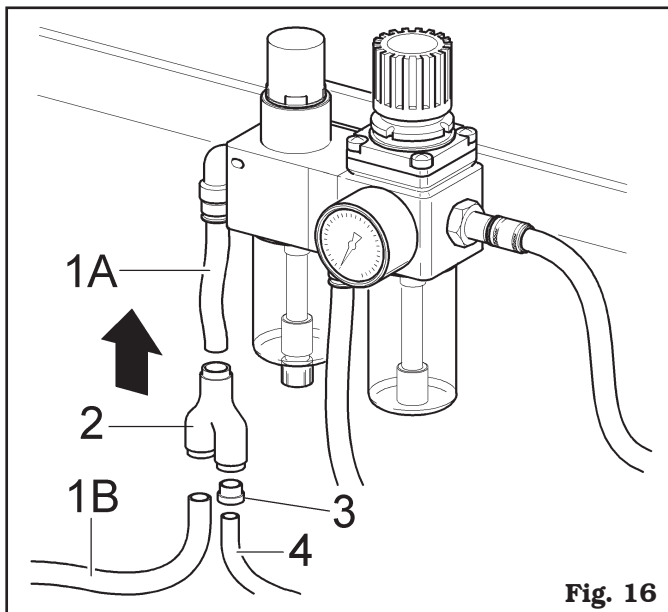

Fig. 16
d - Between the two pipe's sections (**Fig. 16 ref. 1A** - **1B**) interpose the "V" union (**Fig. 16 ref. 2**) (# VS325181). Introduce the reduction (**Fig. 16 ref. 3**) (# VS325054) and connect the pipe (**Fig. 16 ref. 4**) coming from Plus Device's control valve to the "V" union (**Fig. 16 ref. 2**).